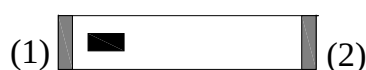

Fig.5-3
2) Terminal Configuration: See Fig.5-3